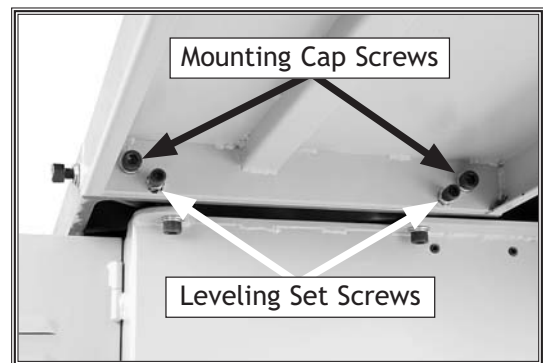

Figure 14. Small extension table installed.
5. Install the small extension table with the two M10-1.5 x 25 cap screws, 10mm flat washers and 10mm lock washers (see **Figure 14**).
6. Thread one M8-1.25 hex nut halfway onto each of the M8-1.25 x 25 set screws, then install two of the set screws where shown in **Figure 14**, to act as leveling screws in a later step.